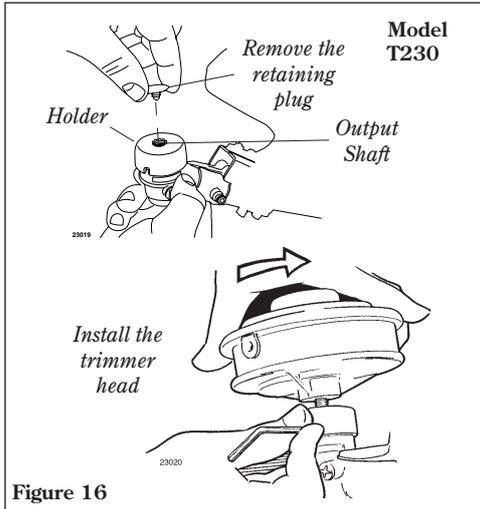

Figure 16
2. **(T230)** Remove and discard the plastic retaining plug. See Figure 16.
3. Rotate the holder until the hole in the holder aligns with the notch on the gearcase flange. Use the long end of the hex wrench to lock the output shaft in position. See Figure 16 or 17.